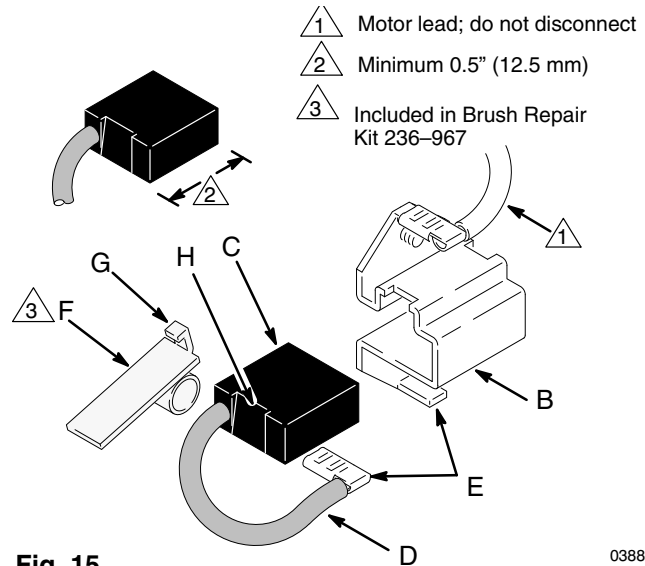

Fig. 15 03881
2. Push in the spring clip (F) and release its hook (G) from the brush holder (B). Pull out the spring clip. See Fig 15.
3. Slide off the brush lead terminal (E) off the blade connector. Remove the old brush (C). See Fig 15.